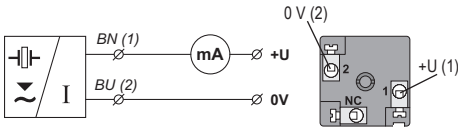
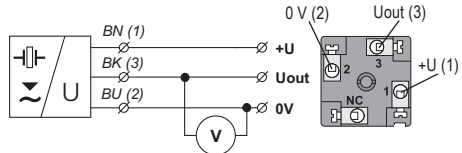
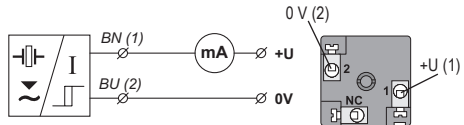
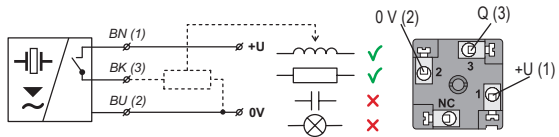

Fig. 16: Connection diagram of the RIL330 level meter (variant -I) and inside view of the connector
Fig. 17: Connection diagram of the RIL330 level meter (variant -U) and inside view of the connector
Fig. 18: Connection diagram of the RIL331 sensor with S type output (two-state current switch 4 mA / 20 mA)
Fig. 19: Connection diagram of the ULS sensor with P type output (PNP) with an open collector
The RIL330 level meter or RIL331 level sensor with a G type cable gland are connected to processing (display) units by means of a cable with an outer diameter of 6 to 8 mm (recommended wire cross-section 0.5 to 0.752mm), via a detachable ISO connector with inner screw terminals, which is part of the delivery. The connection diagram and the inner view of the connector are shown in Fig.16 and 17. Non-detachable connector IP67 with PVC cable 5 m long can be supplied as an extra option.
4. Connect the cable wires to the screw terminals as shown in Fig. 16 (current output 4-20 mA), Fig. 17 (voltage output 0-10 V), Fig. 18 (S type output) or Fig. 19 (P) type output. Tighten the terminals firmly.